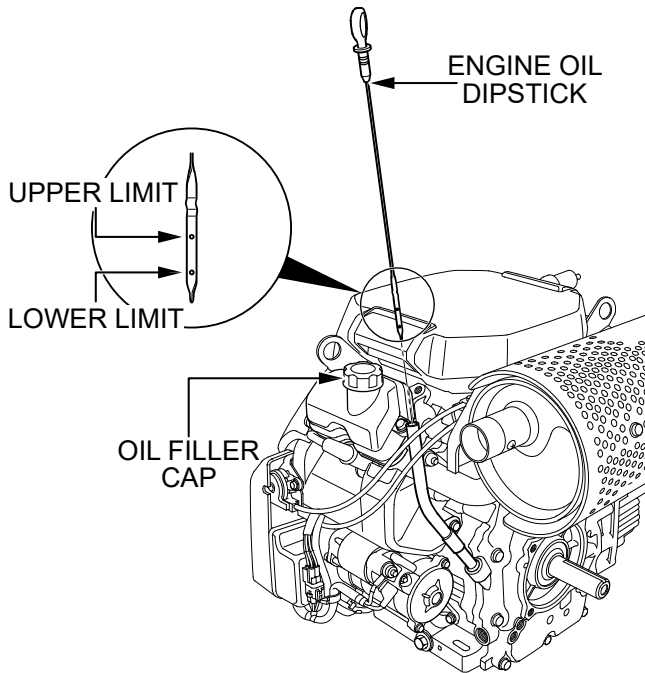

Figure 8. Engine Oil Dipstick
1. Pull the engine oil dipstick (Figure 8) from its holder.
To prevent extensive engine wear or damage, always maintain the proper oil level in the crankcase. **NEVER** operate the engine with the oil level outside of the upper and lower limit marks on the dipstick (Figure 8).
3. If engine oil is low, remove the oil filler cap (Figure 8), and add the correct amount of engine oil to bring the oil to a normal, safe level. Use oil as recommended in Table 6.